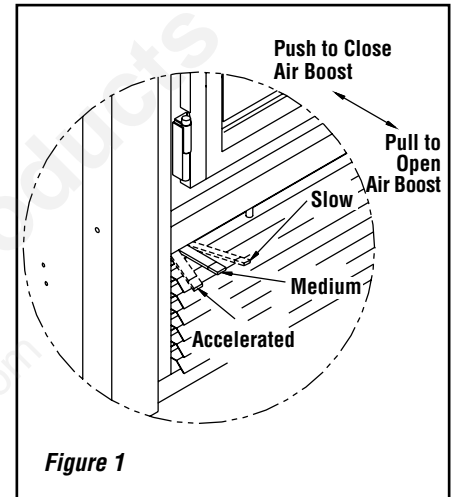

Figure 1
This is the recommended mode of operating the Brentwood™ LV fireplace and should be the one normally used since it will deposit the least amount of creosote on the glass and in the chimney. The combustion air control must be 3/4 closed (*Figure 1*) and pushed in to close the air boost. The precise setting will depend on many factors, including chimney length and the moisture content of the wood.
Creosote may accumulate on the glass door. This method of burning should be used only after operating the Brentwood LV fireplace with the air control opened (**Figure 1**) to produce a hot fire for about an hour or at medium pace for at least three (3) hours. Slow combustion can be used at night in order to reduce the heat output and to prolong the burn. The loading time will be between 6-8 hours.
The Brentwood LV fireplace will operate best if attention is given to operating the unit with the damper fully opened (**figure 1**) after refueling in order to bring the firebox and the chimney system up to their optimum operating temperature. Combustion efficiency is relative to firebox temperature. A temperature of 932° F (500° C) and up, with a visible flame, in the upper part of the firebox indicates a maximum efficiency. To obtain this temperature, the fireplace must be operated with the primary air and air boost controls fully opened during 10 to 20 minutes after reloading, depending on the heat and on the moisture content of the wood.